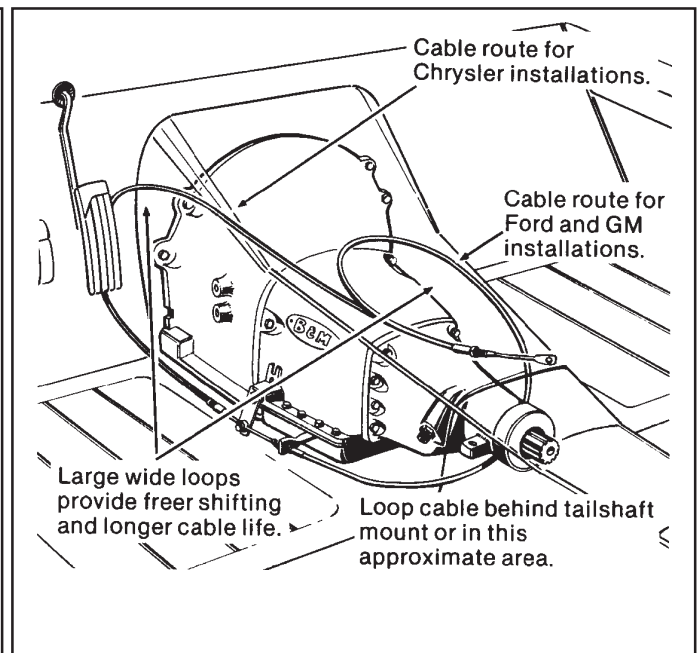

Figure 4
STEP 8. Install the shifter mechanism into the vehicle. Slide the shifter cable through the carpet and the hole in the floor. Bolt the shifter down using four 1/4" x 1-1/2" hex bolts and nuts. If required use 1/4" washers as shims between the shifter mechanism and the floor to level the shifter. **ROUTE THE CABLE AS SHOWN IN FIGURE 4, AVOID SHARP BENDS WHICH WILL KINK AND DAMAGE THE CABLE.** Use cable clamps or tie wraps to secure the cable housing to the chassis to avoid contact with hot engine or exhaust system.
STEP 12. Route the shifter cable according to **Figure 4**. Avoid kinks and sharp bends and route the cable away from hot engine or exhaust parts.
STEP 18. Route the shifter cable according to Figure 4. Avoid kinks and sharp bends and route the cable away from hot engine or exhaust parts.
STEP 23. Route the shifter cable according to Figure 4. Avoid kinks and sharp bends and route the cable away from hot engine or exhaust parts.